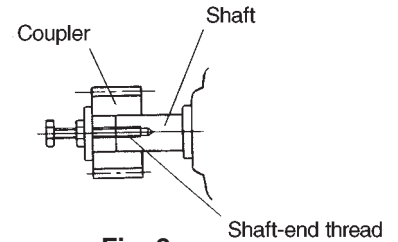

Fig. 2
- Shrink fit or shaft-end thread is recommended for mounting (Fig. 2).